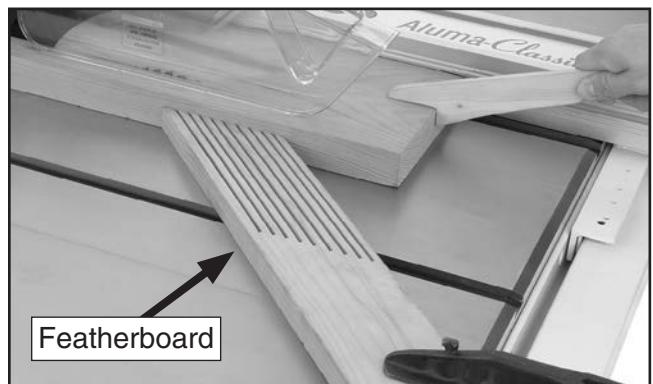

Figure 58. Typical ripping operation.
9. Use push stick to feed workpiece through saw blade, as shown in **Figure 58**, until workpiece is completely beyond saw blade.